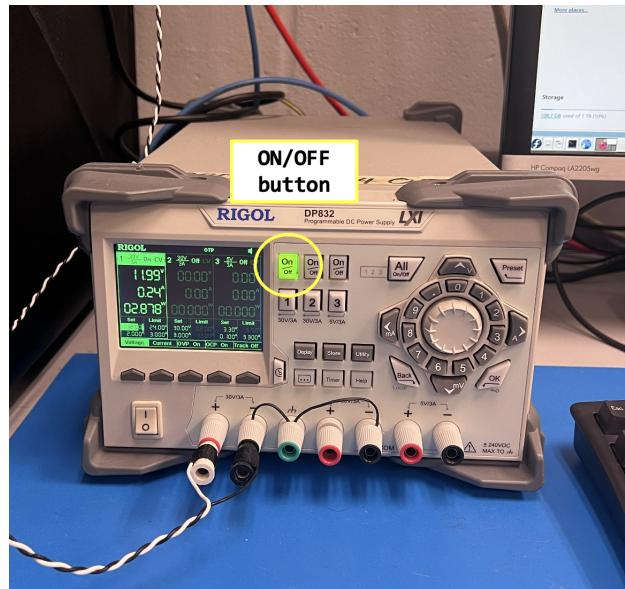

Figure 6: Power supply ON/OFF button.
- 1) Turn on the power supply: Press the button indicated in Figure 6.